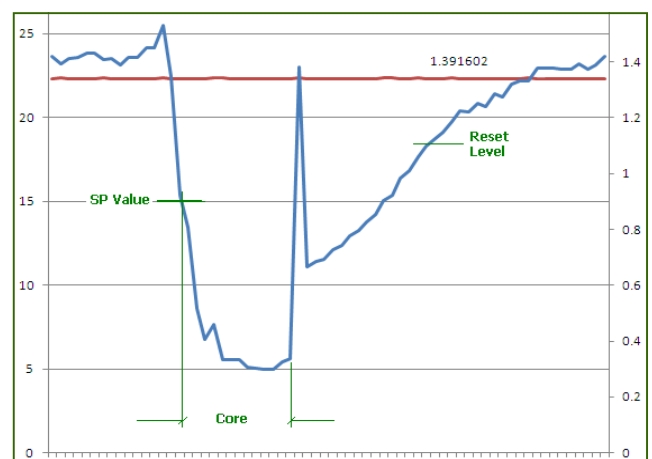

Figure 3 - SP & Reset Values
Both Conjure and Propel have two user controlled UV Detection Values; Set Point (SP) and Reset Values, **Figure 3**.
Setting the SP Value is very straightforward. The best value is one that is above the Product signal, but dramatically lower than the Baseline Recovery Value as illustrated in Figure 3. When reviewing the settings and performance of the detection during development keep in mind that the leading edge fluoruous spacer will cause a positive peak. This may cause alarm but not to worry. Set the SP Value (Detection Level) lower than the lower than the Reset Baseline so that no false positives are triggered.